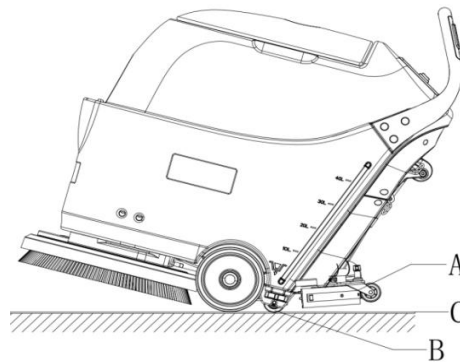

Figure 8
1. Release the safety switches (1), and then brush/pad-holder stop working.
2. Press the brush switch (46), vacuum switch (47) and power switch (45) to off position “o”.
4. Lifting the squeegee (A, Figure 8) from the ground by squeegee lever (14).
5. Hold the machine handlebar (2) and lean back machine until assist wheels (B, Figure 8) touch the ground.